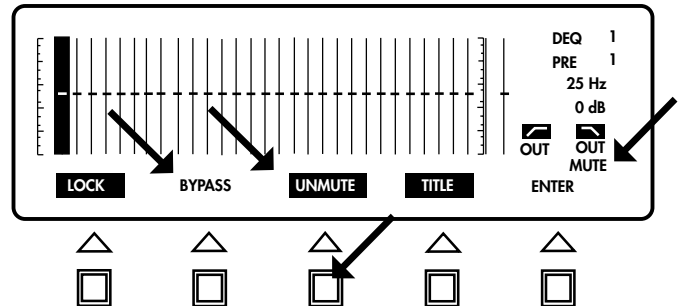

Figure 2.3: Mute
3. The **BYPASS/INSERT** Softkey has been placed in normal video to indicate that it cannot be used while the equalizer is muted (see Figure 2.3).